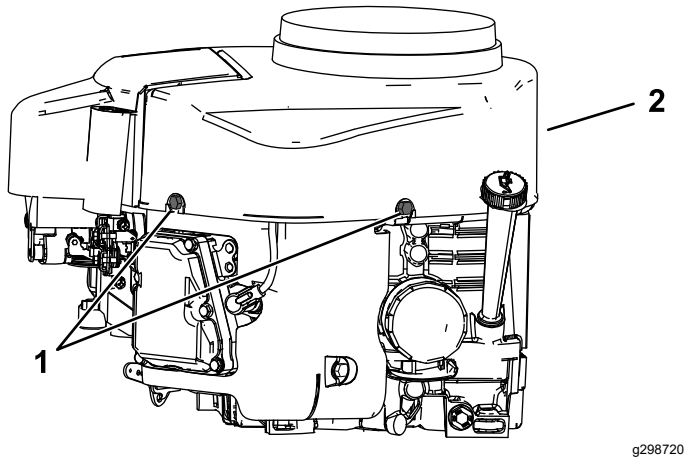

Figure 45
4. Loosen the bolts and remove the fan housing (Figure 45).